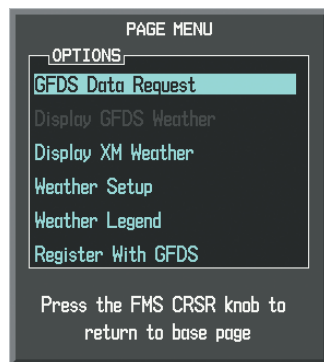

Figure 6-59 Weather Data Link (GFDS) Page Menu
- 3) With 'GFDS Data Request' highlighted, press the **ENT** Key (Figure 6-59).